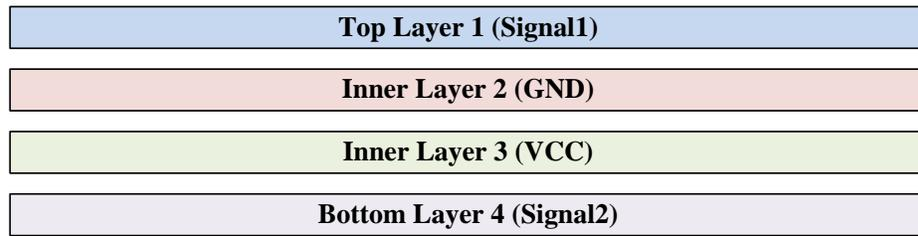

**图 20. Four-Layer Board Stack-Up**
9. Due to high frequencies associated with the USB, a printed circuit board with at least four layers is recommended; two signal layers separated by a ground and power layer as shown in 图 20.